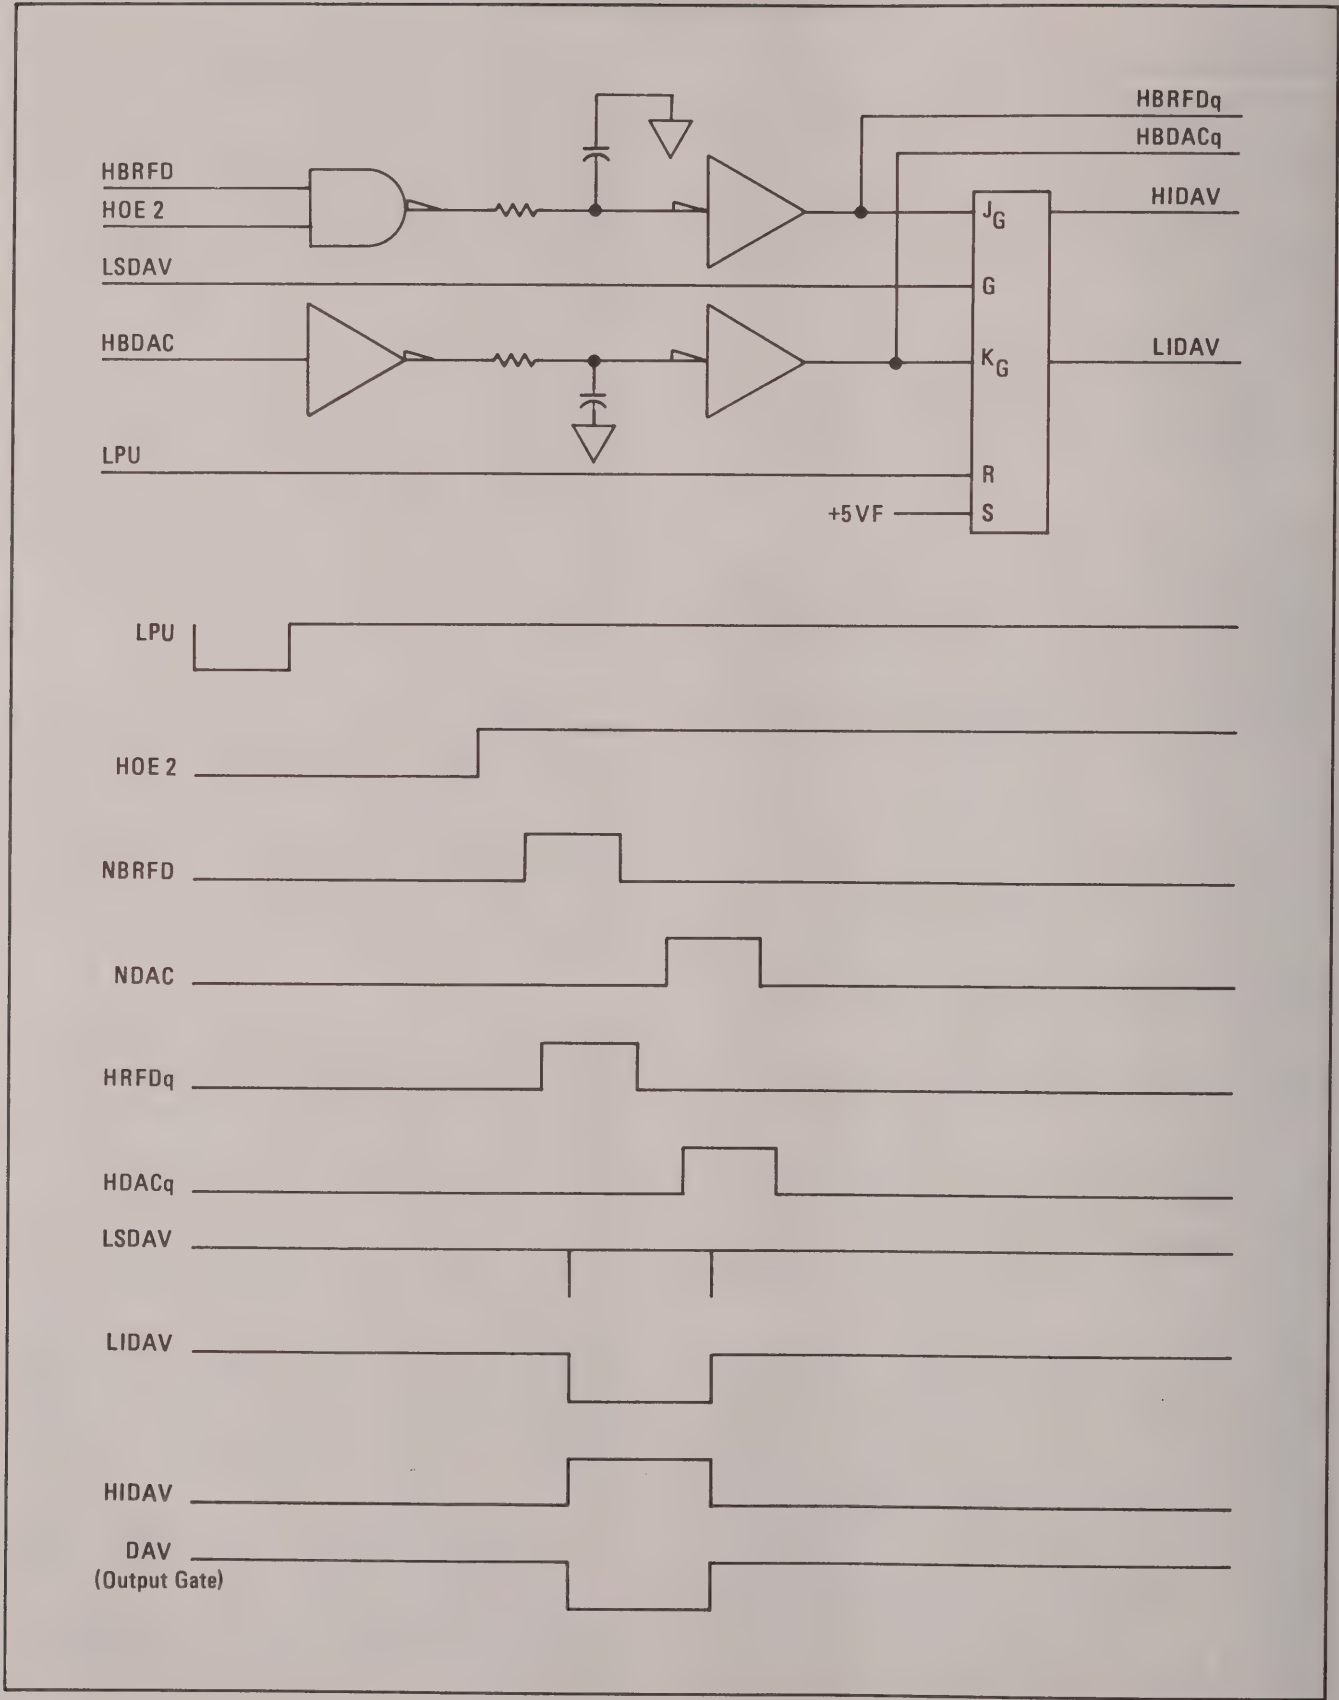

Figure 8-20. Data Valid Status Generator Timing
b. **Data Valid Status Generator.** The Data Valid Status Generator functions in conjunction with the operating program to generate the timing signals necessary to complete a Power Meter initiated data transfer. A timing diagram of Data Valid Status Generator operation is provided in Figure 8-20. As shown in the figure, the JK flip-flop is initially reset by the LPU input and cannot change state until the Power Meter is addressed to Talk and all listeners on the HP-IB indicate that they are ready to accept data. When this occurs, both the